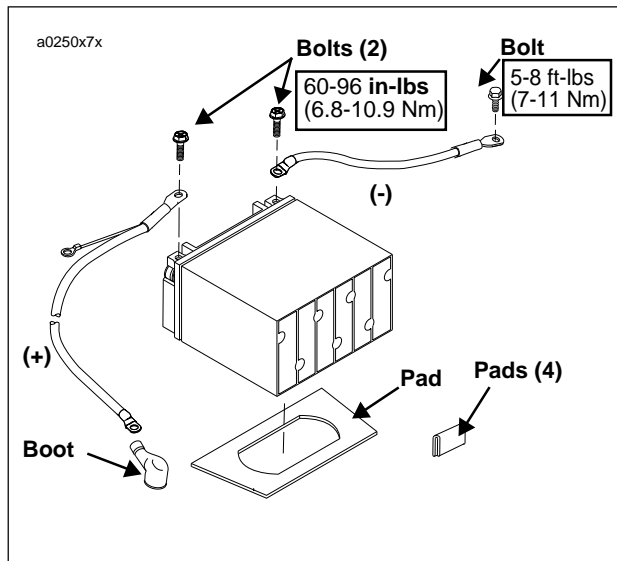

Figure 7-62. Battery Installation
2. See Figure 7-62. Insert bolt through battery positive cable (red) into threaded hole of battery positive (+) terminal. Tighten bolt to 60-96 **in-lbs** (6.8-10.9 Nm).
3. See Figure 7-62. Insert bolt through battery negative cable (black) into threaded hole of battery negative (-) terminal. Tighten bolt to 60-96 **in-lbs** (6.8-10.9 Nm).